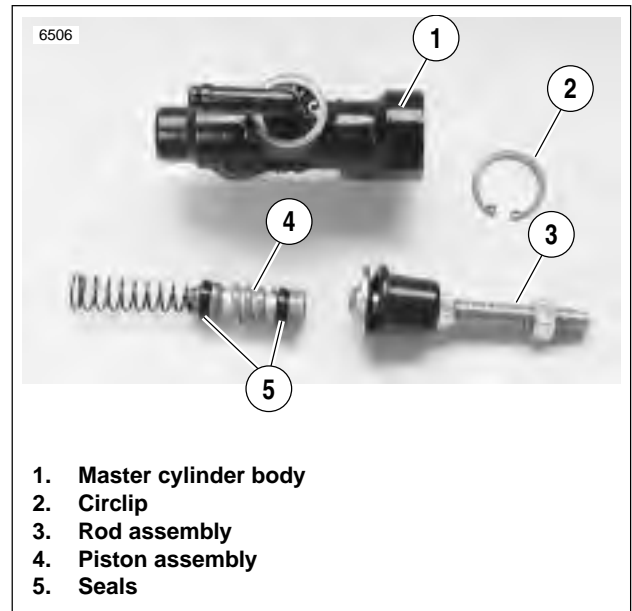

Figure 2-50. Master Cylinder Internal
1. See Figure 2-50. Slide rubber boot on rod assembly (3) away from master cylinder body (1).
2. Depress rod assembly (3) and remove internal circlip (2). Discard circlip.
3. Remove piston assembly (4) from master cylinder body (1).
4. Loosen adjuster locknut on the rod assembly (3).
5. Remove the clevis from the rod assembly (3).
2. See Figure 2-50. Assemble **new** piston components placing small end of spring behind primary seal of piston (4).
3. Lubricate master cylinder body (1) and piston seals (5) with **D.O.T. 4 BRAKE FLUID**.
4. Place round side of rod assembly (3) over piston. Depress piston (4) into master cylinder body (1) and secure with a **new** circlip (2).